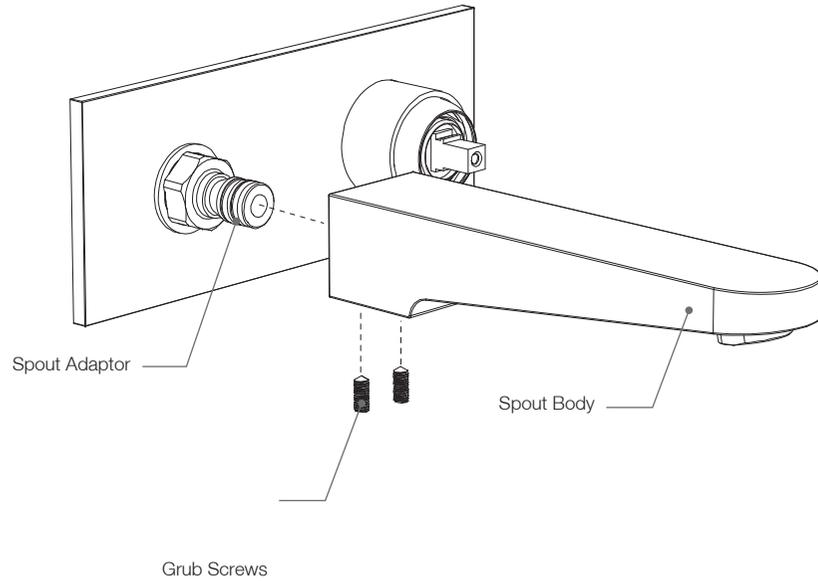

fig. 7
- Loosen the two grub screws on the underside of the spout body and then push the spout onto the spout adaptor, ensuring it is level and sits flush against the chrome face plate. Re-tighten the grub screws. (fig 7)